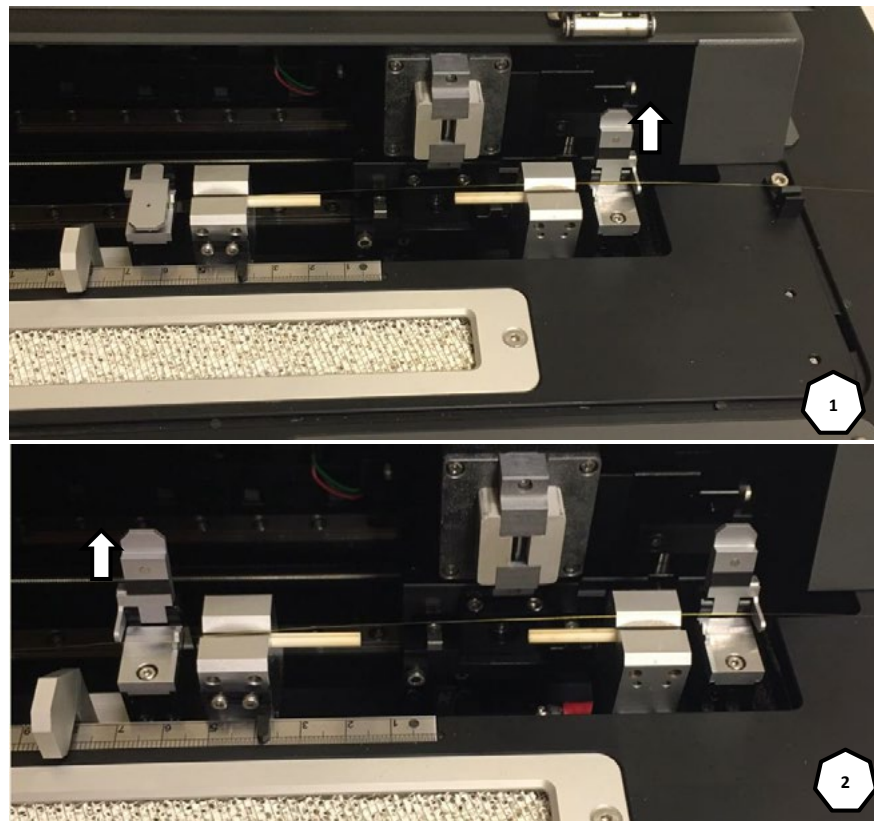

Figure 4.3.7
- (5) Open the cover, and refer to the sequence in Figure 4.3.7 to unload the fiber.